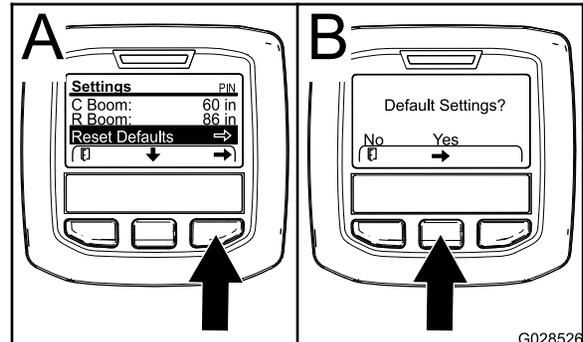

Figure 28
1. Press the center selection button to navigate to the Reset Default entry (Figure 28).
3. In the Default Settings screen, press the left selection button for No or the right selection button for Yes (Figure 28).